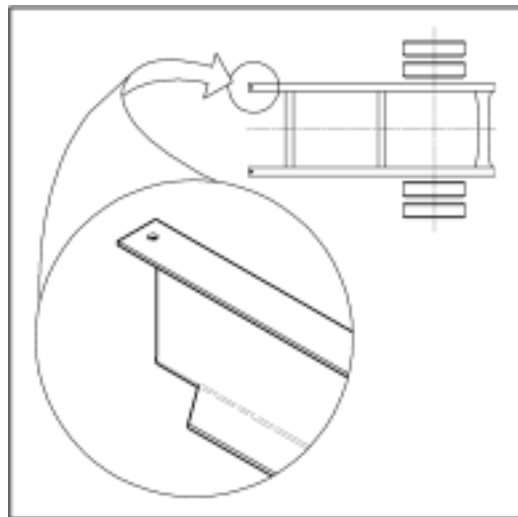

Figure 4—Rear Shear Bolts Part Number 0522342
2. After 2000 miles, tighten quarterly to 22 to 28 foot-pounds. **Figure 4—Rear Shear Bolts Part Number 0522342.**